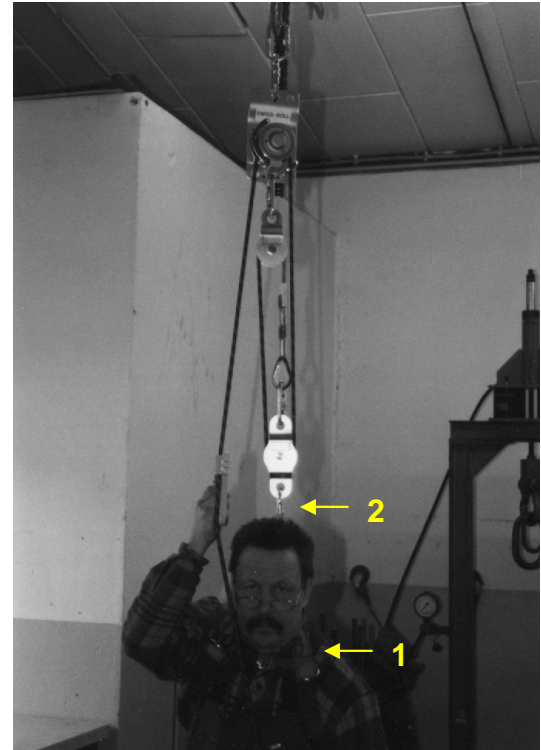

Abbildung 31
2.2. For entry (Abb. 31)
2.2.1. Don the entry belt (FIG.31)
2.2.2. Hang the carabine of the rope stop unit on the entry belt (1) (Abb. 31).
2.2.4. Hang the load rope carabine on the entry belt ring (2) (Fig.31)